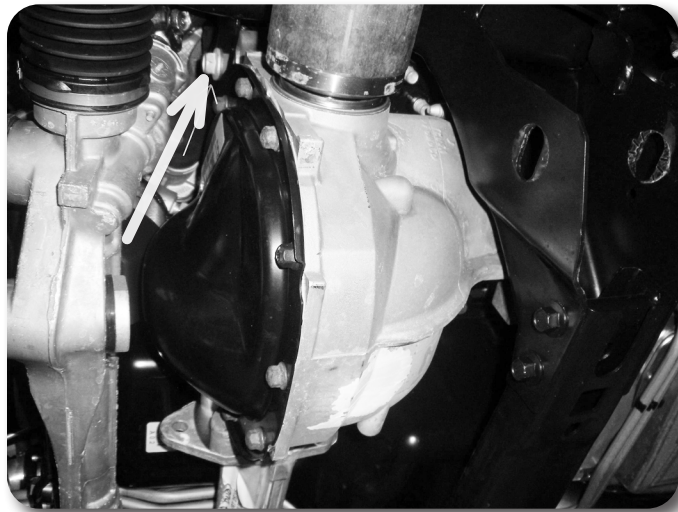

Figure 10
23. Support the front differential with an appropriate jack. Loosen all of the hardware and slide the differential all the way to the passenger's side. Orientate the joint at the steering rack so there is the most possible clearance to remove the front driver's side bolt. Remove this bolt first. Disconnect the differential breather hose from the differential housing. Remove the rear driver's side and one passenger's side differential mounting bolts Figure 10 / 11 / 12 and remove the differential from the vehicle.